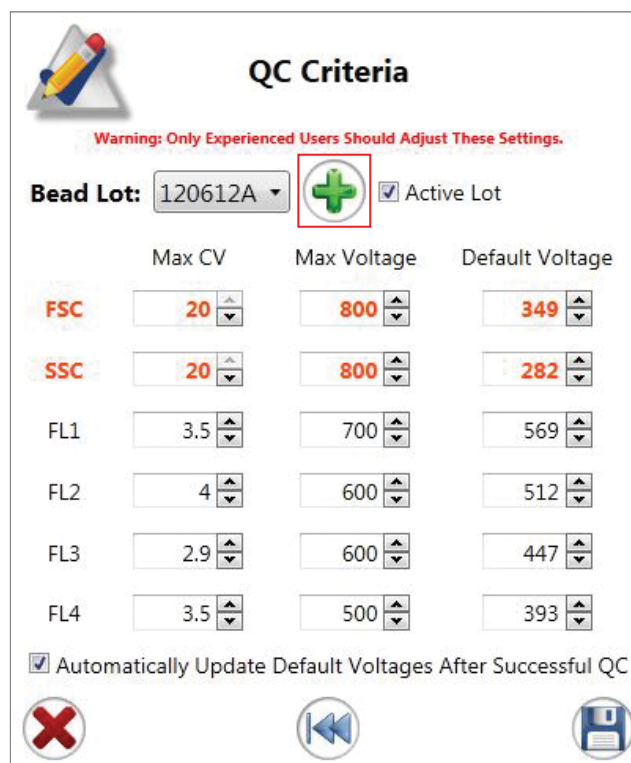

Fig. 6. QC Criteria window with Bead Lot add (+) button selected.
3. Click the **Bead Lot** add (+) button (Figure 6).